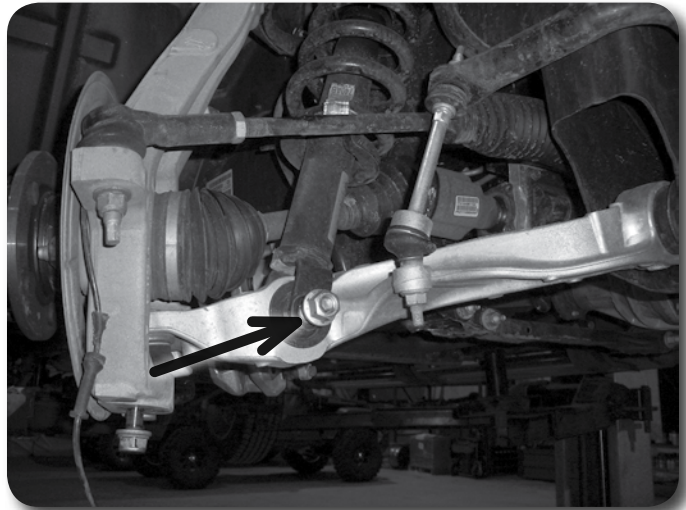

Figure. 6
17. Loosen the strut-to-lower control arm hardware **Figure 6**. Remove the nut from the bolt and leave the bolt in place to temporarily retain the strut to the lower control arm. Retain the nut.